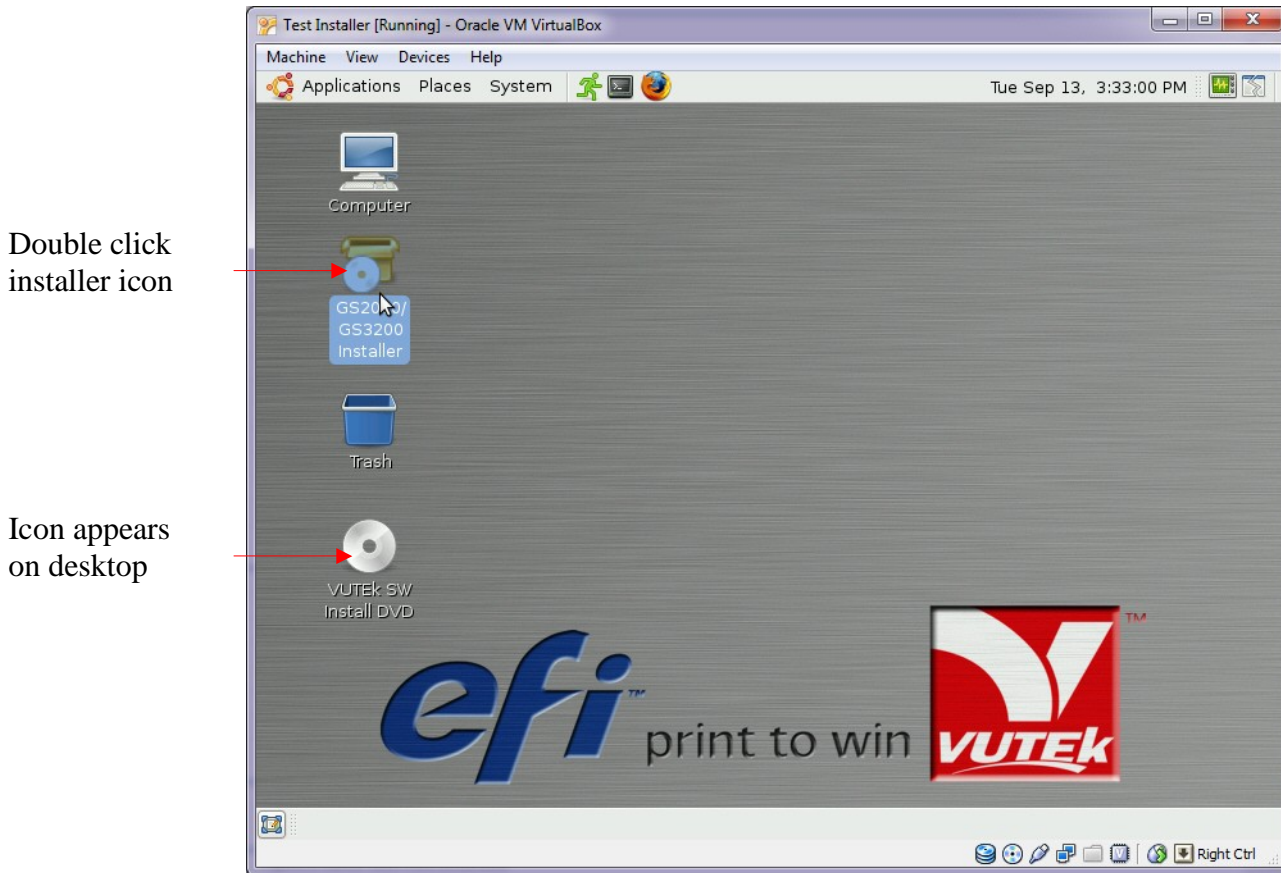

Figure 17: Installer Icon on desktop
3. Wait approximately 15-45 seconds while system detects disc. When system has detected disc, an icon appears on desktop labeled **Vutek-SW Install DVD**. See **Figure 17**.